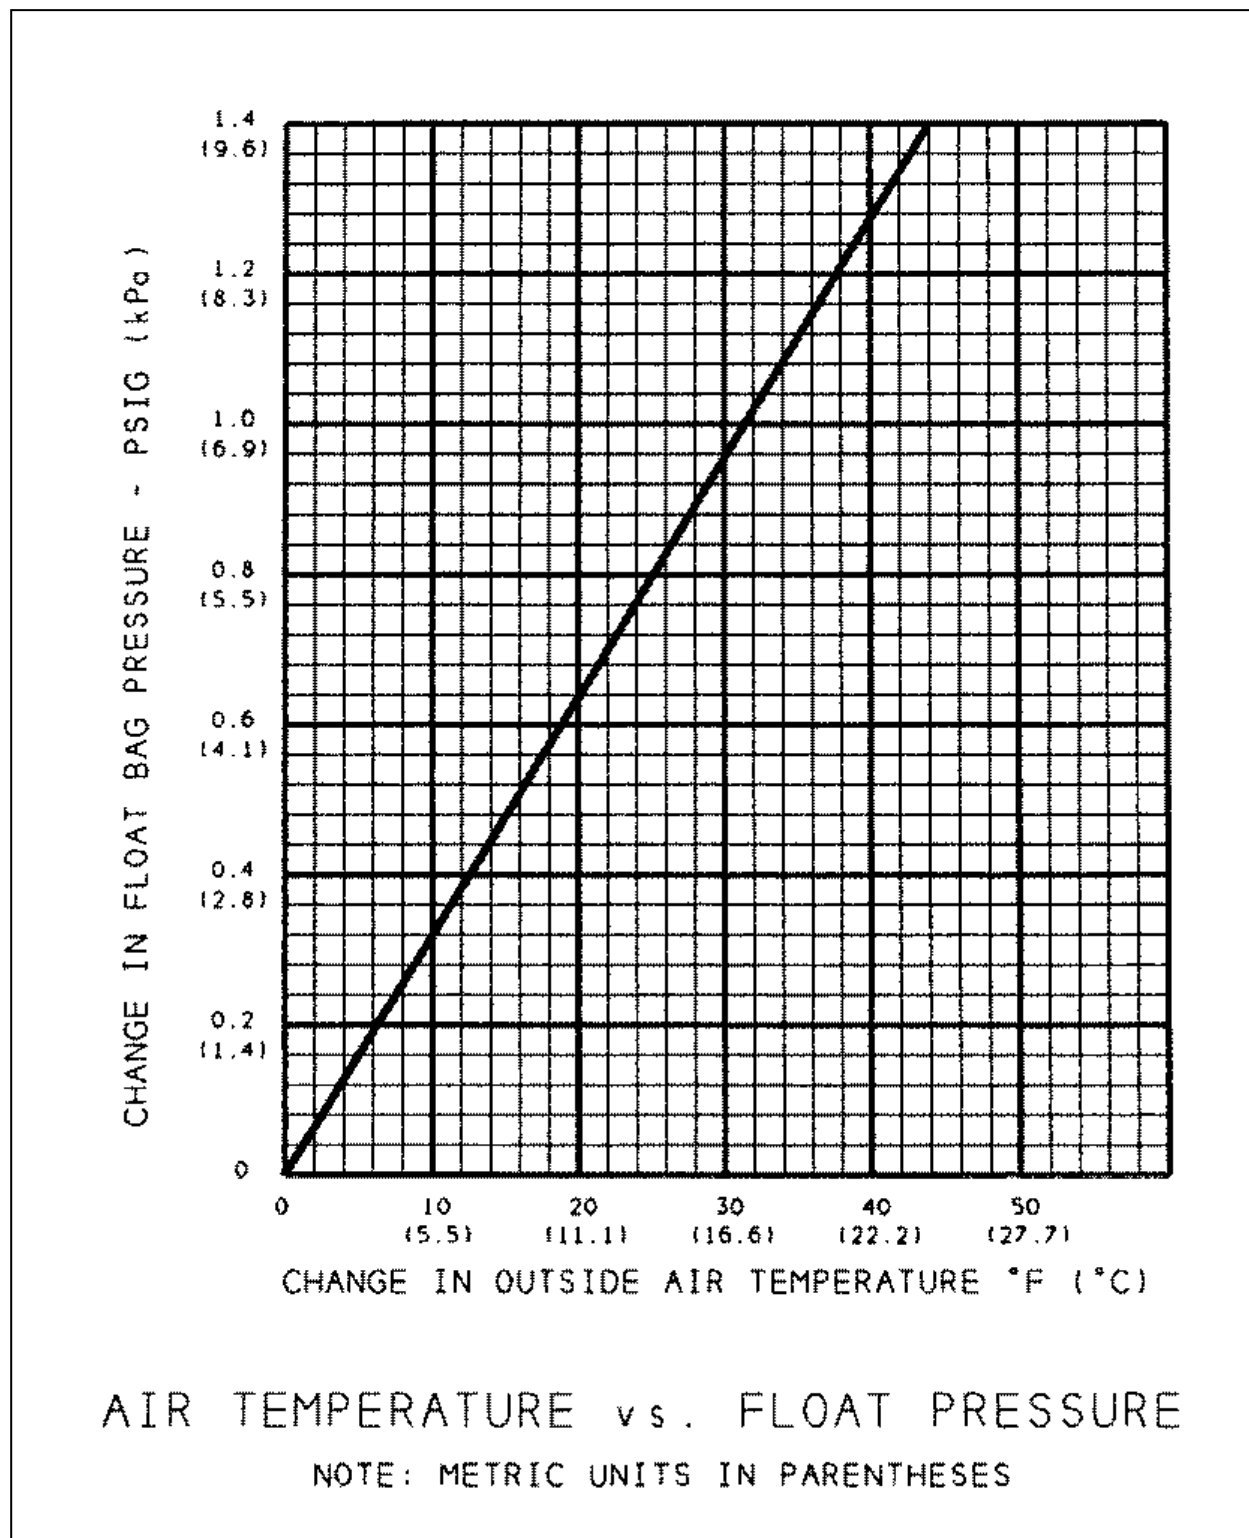

FIGURE 16 – AIR TEMPERATURE VS FLOAT PRESSURE
- a. Inflate bags to 2.25 psig. Readjust pressure after two (2) hours if required.
- c. After 6 hours, record OAT and bag pressure. See the graph of Figure 16 to determine changes in bag pressure caused by OAT changes.
- d. If OAT increased during test period, use Figure 16 data obtained in Step C to subtract pressure change value from final float bag pressure.
- e. If OAT decreased during test period, use Figure 16 data obtained in Step C to add pressure change value to final float bag pressure.
Read from Figure 16.